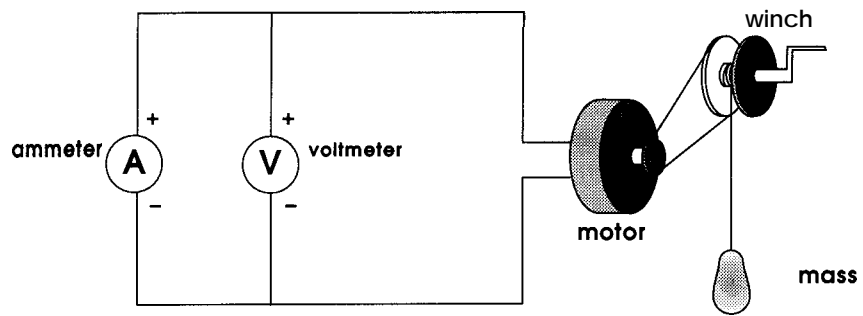

figure 2
- Connect the circuit as shown in figure 2, being careful to connect the meters so they record a positive deflection when the mass is falling to the ground.